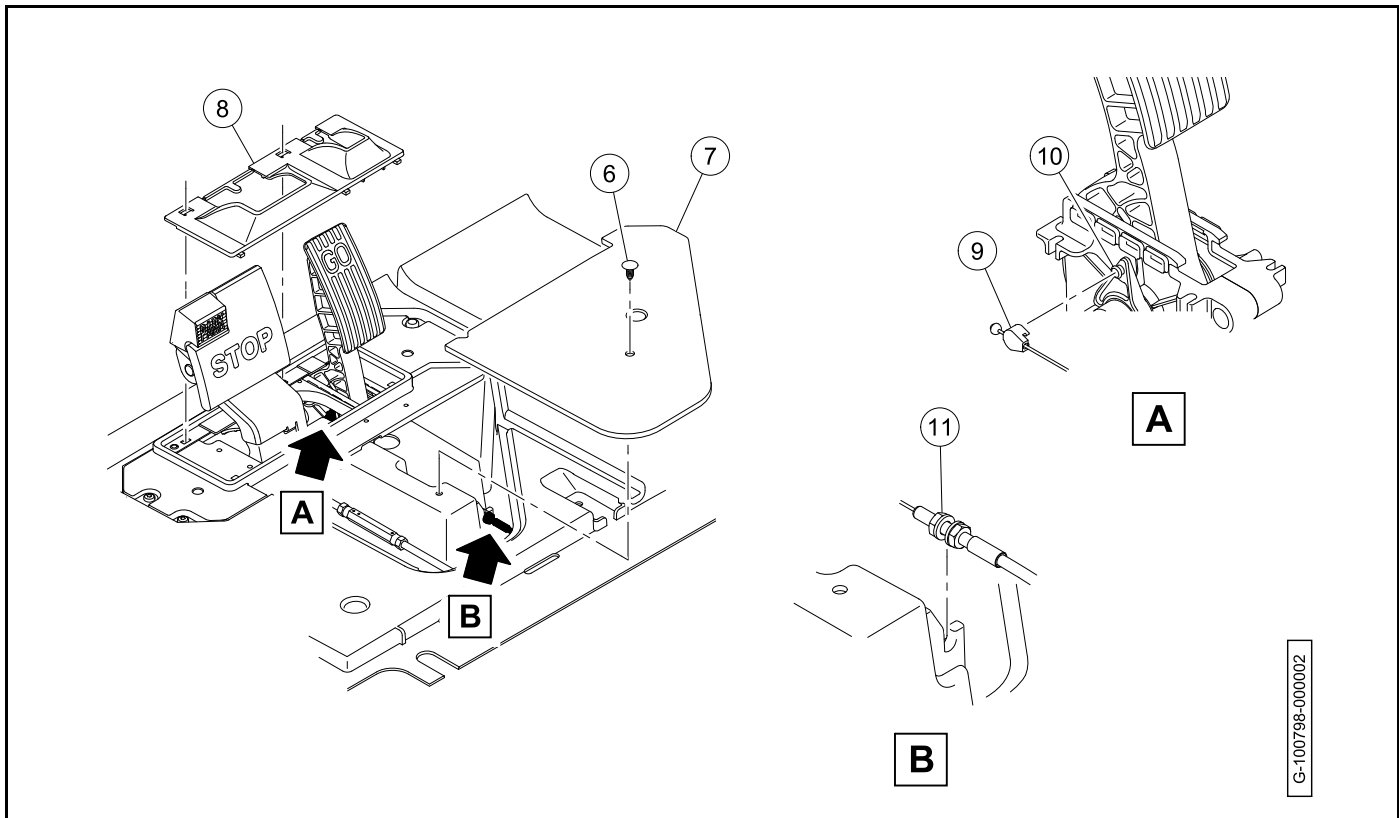

Figure 22-9 Accelerator Cable At Pedal Group
- 2.2. Connect the accelerator cable clip (9) to the accelerator pedal (10) (**Figure 22-9, Page 22-8**).